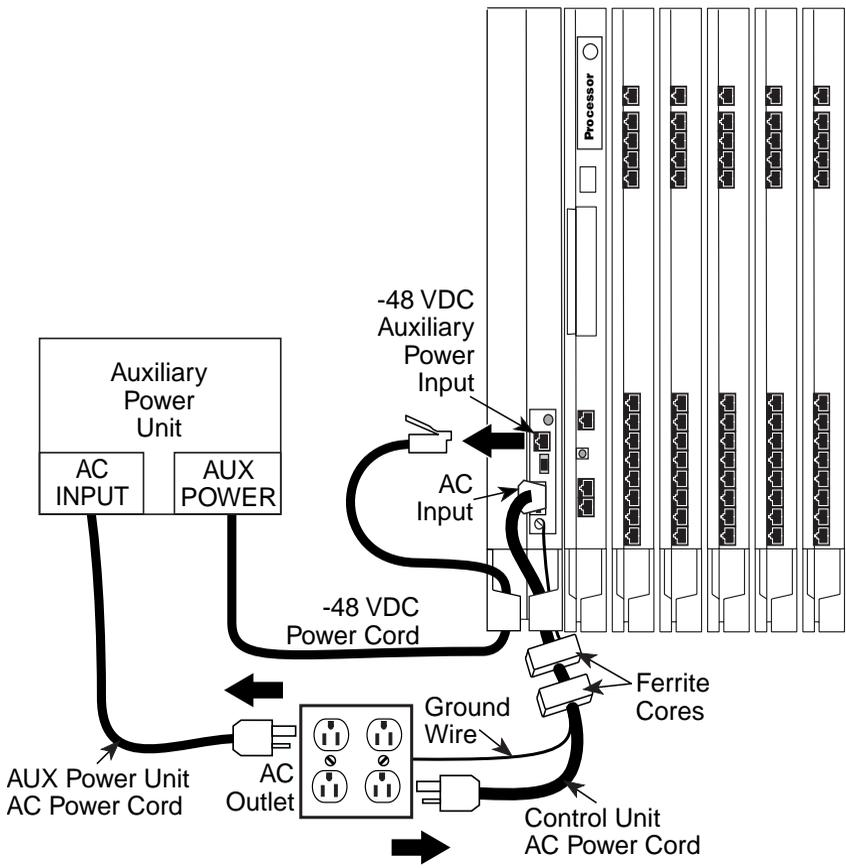

Figure 9-2. Powering Down the System
To power down the system, follow the steps below and see Figure 9-2:
- ▶ 2. Power down the system as described earlier in this chapter. See Figure 9-2.